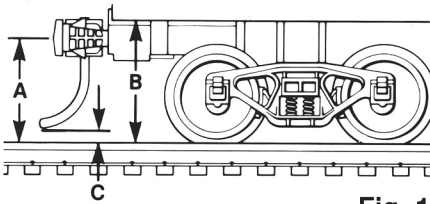

Fig. 1
3. To mount coupler gear box assembly at this height, Fig. 1 shows the distance from top of rail to the mounting surface of the underside of the car must be approximately 1.203" (1 13/64"). The J & M Model Pullman passenger car mounting surface is much higher, about 1 9/16". This bracket will make installation of the Kadee® No. 820 coupler possible on cars with high mounting surfaces, allowing use of existing screws on the underbody. Cars which measure slightly higher or lower can be modified as in No. 5 (next column) to permit use of this bracket.